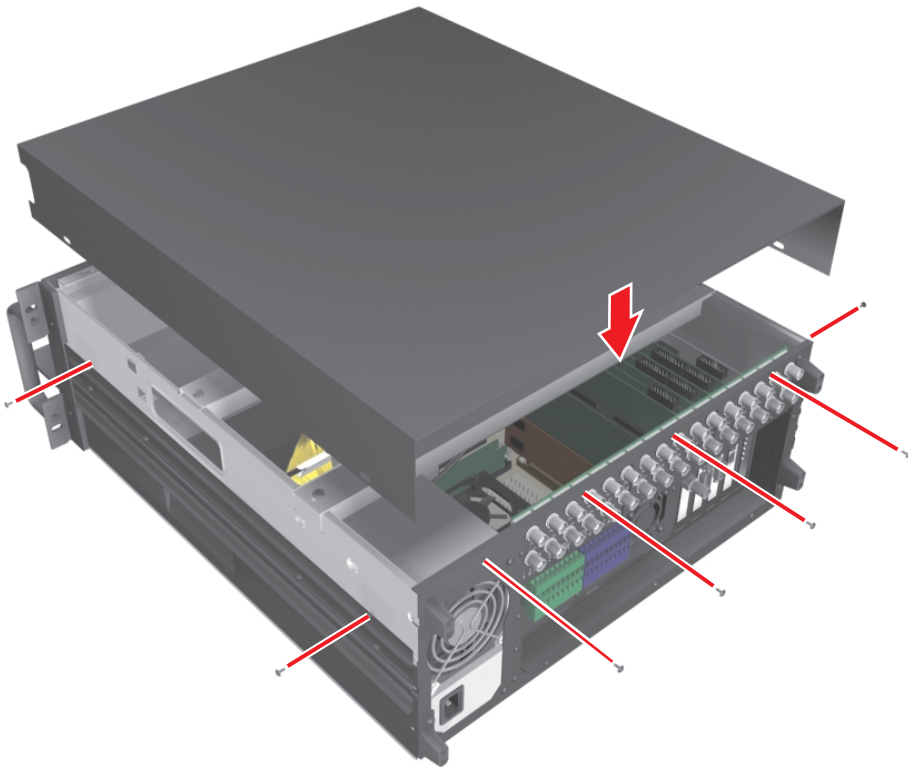

Figure 19. Replacing Chassis Cover
2. Replace the chassis cover using the same screws you removed from the side and rear of the unit. Refer to Figure 19.